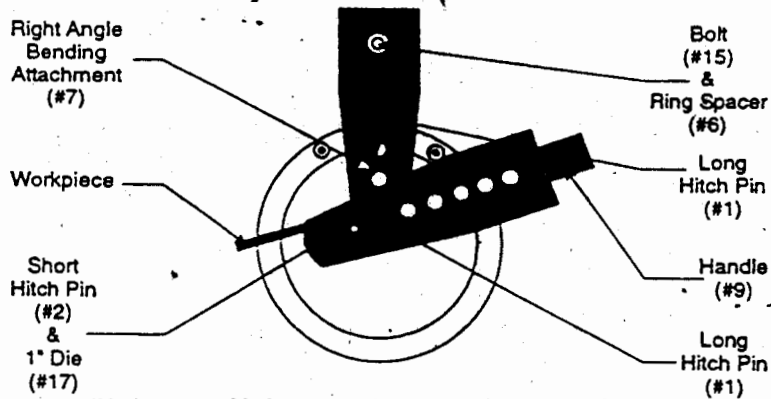

Figure 2 - Using Angle Bending Attachment
- 1) Attach the Right- Angle-Bending Attachment (part #7) as shown in Figure 2.